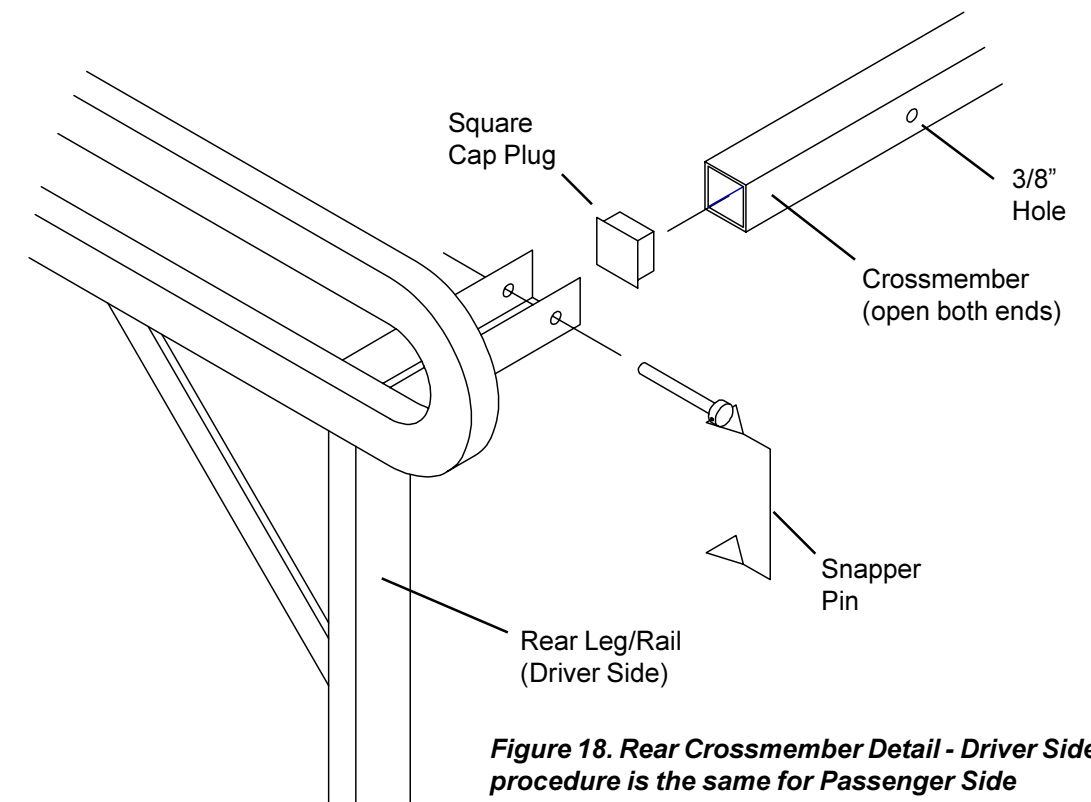

**Figure 16. Rear Leg/Rail Mounting**
**7. Rear Leg / Rail Mounting** - With the help of another person, install the Driver Side Rear Leg/Rail into the Leg Support at the rear, and loosely assemble the Rail assembly in the Front Leg rail sockets (see Figure 16. and detail Figure 17.). Repeat this with the Passenger Side Rear Leg/Rail. Tighten both of the Rear Leg/Rails in the Leg Supports, making sure the Legs are at 90 degrees to the service body. Tighten the Clamp Plates on the front Rails.